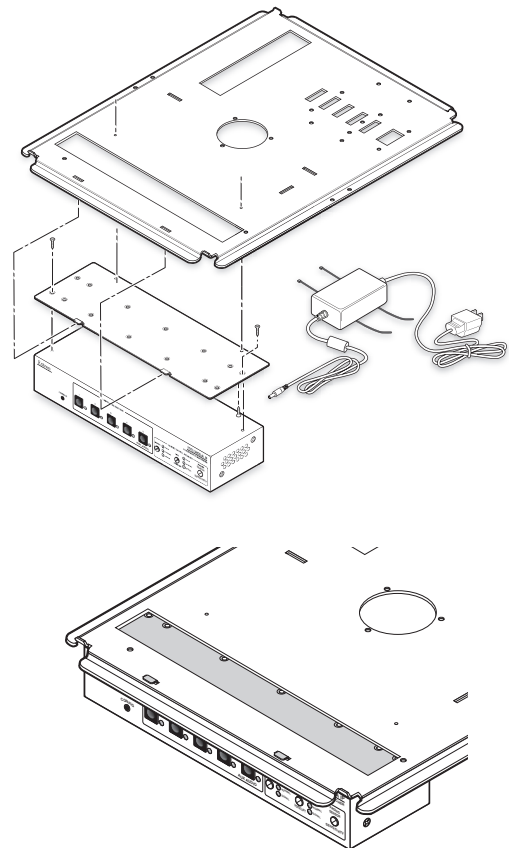

Figure 2. Installing the PVS Switcher
2. To mount the PoleVault switcher, place the mounting plate, with the raised tabs upwards, on top of the switcher top and pass the two supplied 4-40 x 3/16 inch screws into the top of the switcher (see figure 2, top). Secure the mounting plate but do not overtighten.
- Any installed switcher should be secured to the plate in an upside down position so that when the plate is rotated to hang from the ceiling, the device will be in its correct orientation (see figure 2, bottom).
4. Attach the associated power supply with the supplied tie wraps and pads, by passing them through the appropriate slots and around the power supply (see figures 2 and 3). Tighten until snug.